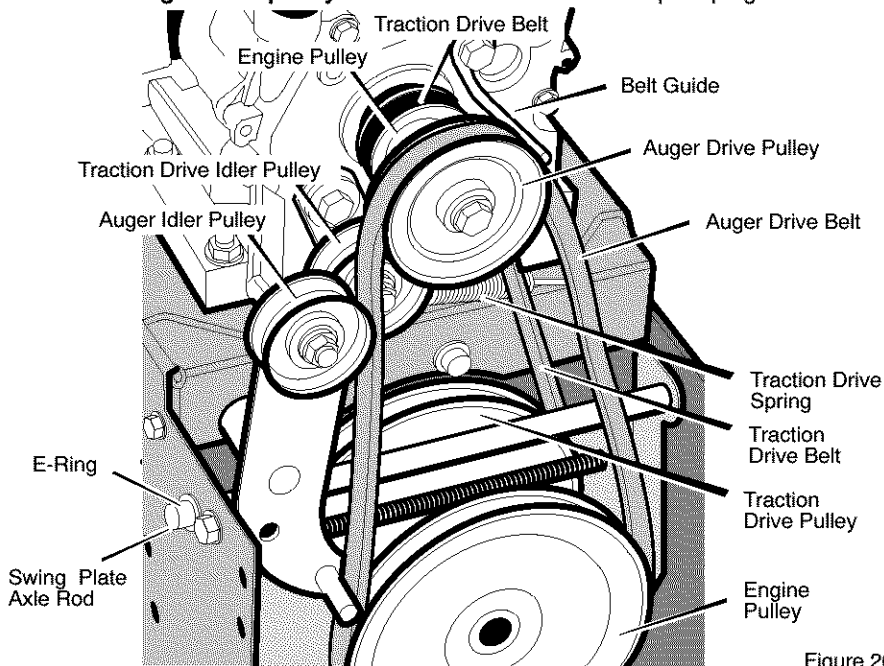

Figure 26
3. Loosen nut on auger idler pulley and move auger idler pulley towards belt about 1/8 inch (3 mm) (see Figure 26).
5. Loosen the **belt guide**. Pull the **belt guide** away from the **auger drive pulley** (see Figure 26).
3. Remove the **e-ring** from one end of the **swing plate axle rod**. Remove the **swing plate axle rod** to allow the swing plate to pivot forward (see Figure 26).